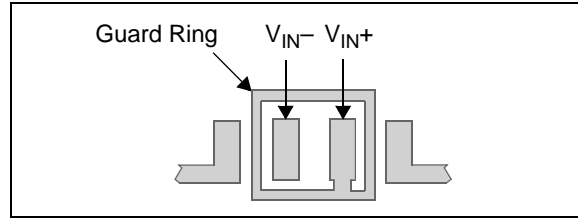

FIGURE 4-5: Example guard ring layout.
Figure 4-5 shows an example of this type of layout.
1. Inverting Amplifiers (Figure 4-5) and Transimpedance Gain Amplifiers (convert current to voltage, such as photo detectors).